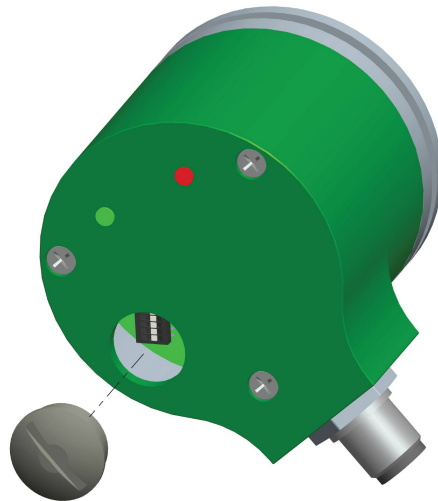
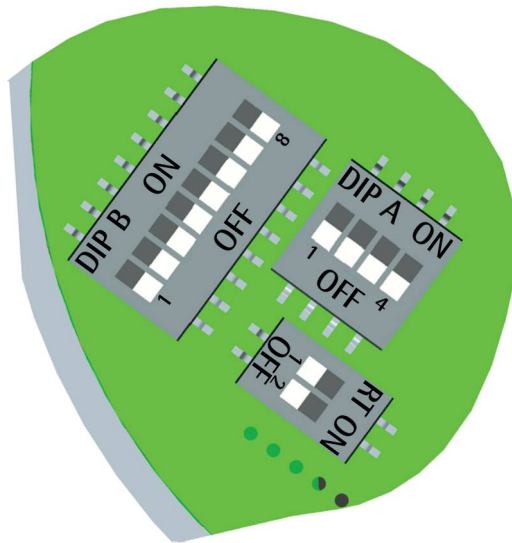

Figure 2: Reaching the DIP-Switches
Figure 3: DIP-Switches
### 4.5 Dip-Switches (Figure 2 and Figure 3)
#### 4.5.1 Setting data transmission rate: Baud rate and Parity bit (Figure 3)
### 4.5.2 Setting the node address (Figure 3)
### 4.5.3 Bus termination (Figure 3)
- set the data transmission rate (baud rate and parity bit; see section "4.5.1 Setting data transmission rate: Baud rate and Parity bit (Figure 3)" on page 22); the default value set by Lika Electronic at factory set-up is "baud rate = 19200 bit/s, parity = Even";
- set the node address (node ID; see section "4.5.2 Setting the node address (Figure 3)" on page 24); the default value set by Lika Electronic at factory set-up is "1";
- **ADDRESS FIELD:** on Modbus Serial Line the address field only contains the Slave address. As previously stated (see section "4.5.2 Setting the node address (Figure 3)" on page 24), the valid Slave node addresses are in the range of 0 – 247 decimal. The individual Slave devices are assigned addresses in the range of 1 – 247. A Master addresses a Slave by placing the Slave address in the **ADDRESS FIELD** of the message. When the Slave returns its response, it places its own address in the response **ADDRESS FIELD** to let the Master know which Slave is responding.